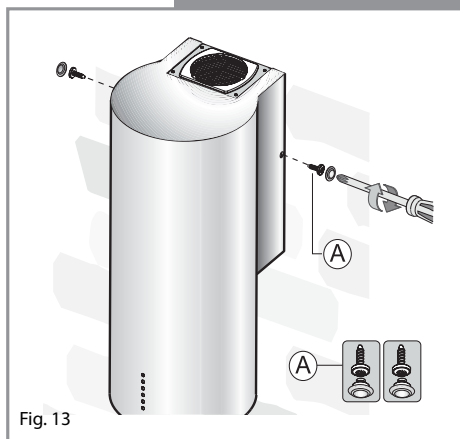

Fig. 13
1. Refit the 2 screws (A) in the side (fig.13)